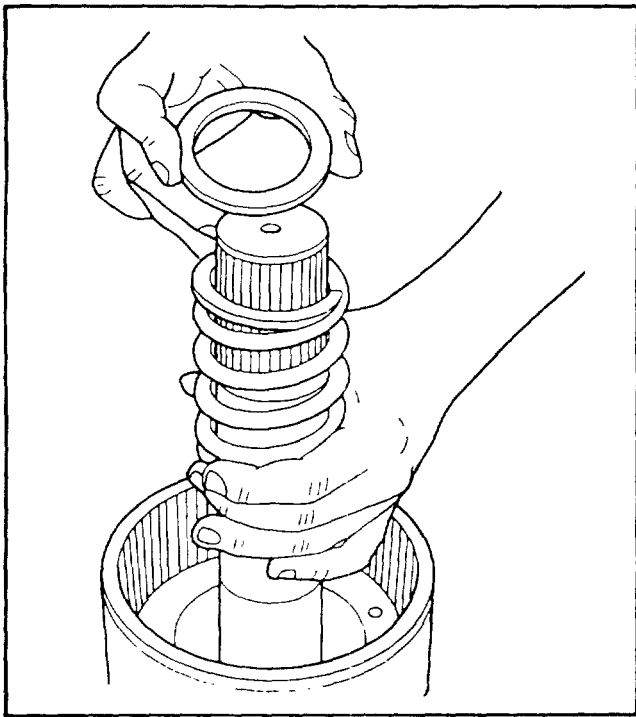

FIGURE I-22: Clutch release spring and retainer removed.
Remove the clutch return spring (Figure O-3 item 18) and spring retainer (Figure O-3 Item 19) (Figure I-22).